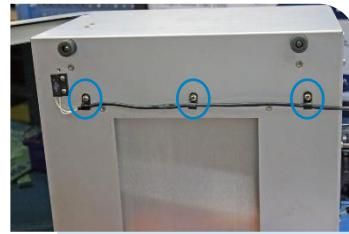

Figure 4. Interlock Switch Cable
- Fasten the Interlock Switch Cable to the bottom side of the unit using the three Nylon Strap Loops and the three M4 x 8-mm screws (Figure 4).